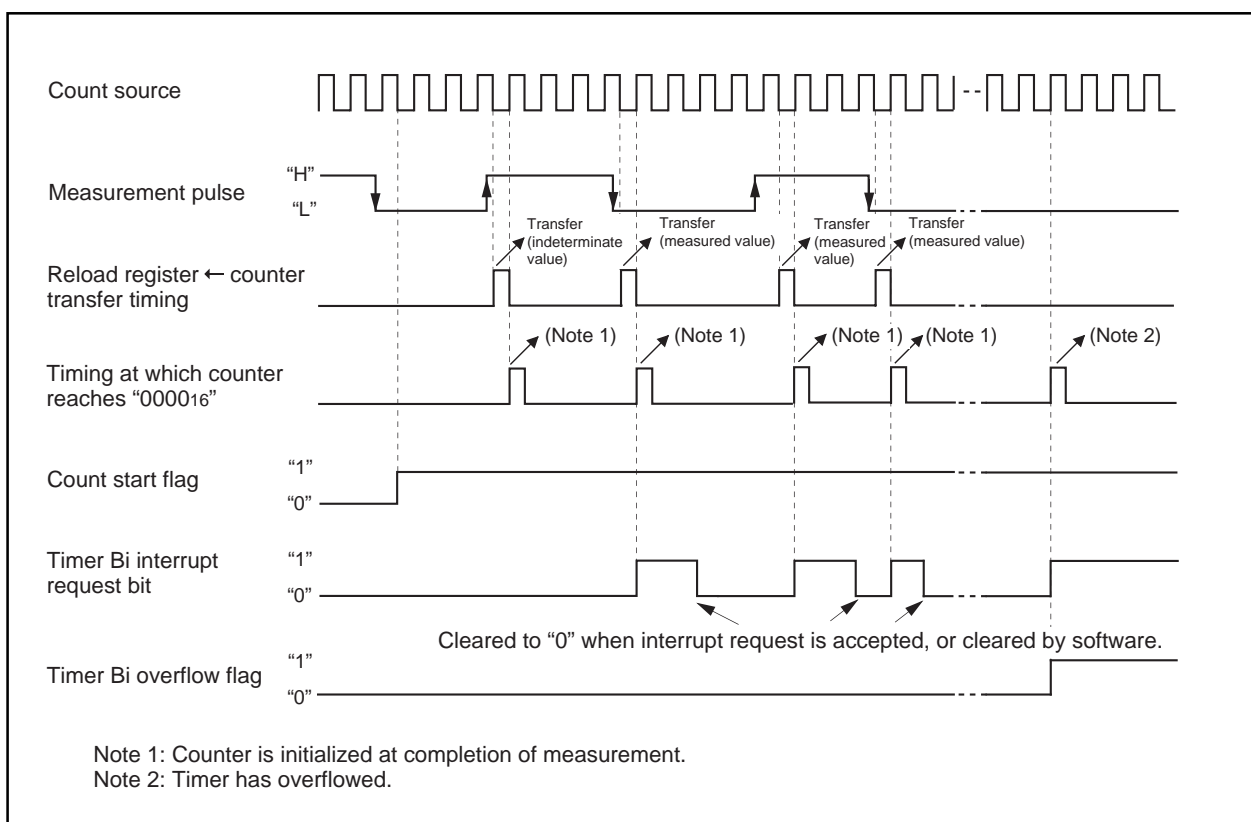

Figure 1.16.20. Operation timing when measuring a pulse width
1.16.19 shows the operation timing when measuring a pulse period. Figure 1.16.20 shows the operation